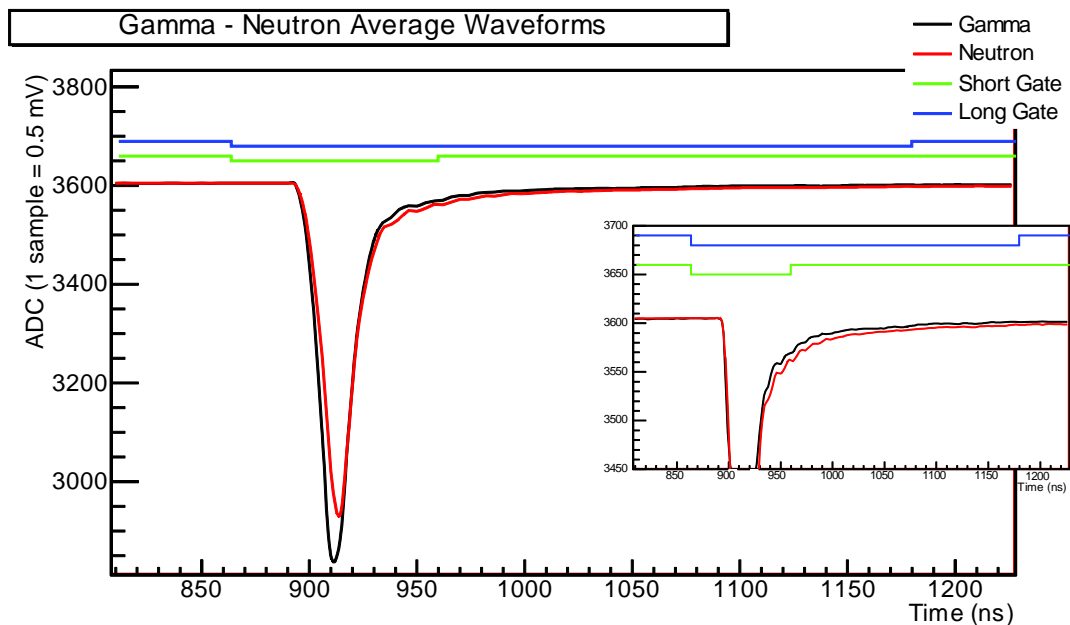

Fig. 1.1: Plot of typical Gamma-Neutron waveforms
- the **Digital Pulse Processing for Pulse Shape Discrimination** firmware (DPP-PSD), dual gate, running only on the 720 series digitizers (12 bit, 250MS/s) with the EP1C20 FPGA, and on the 751 series digitizers (10 bit, 1 GS/s; DES mode not supported). The DPP-PSD firmware allows for charge integration in two different gate widths to discriminate short and long components of the input signal. **Fig. 1.1** shows a typical example of signals from neutrons and gamma, where we can see a difference in the waveform. See **[RD2]** for an example of DPP-PSD application in gamma-neutron discrimination in liquid scintillators.